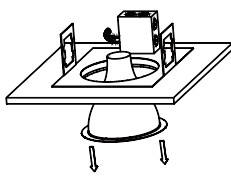

Fig. 2
- Step 2: If existing lamp and trim are present, remove from ceiling or move it out of the way as it will not be needed during installation. Measure the ceiling opening to make sure the edge of the luminaire will cover the entire hole and still sit firmly in the ceiling before proceeding ( Fig. 2).